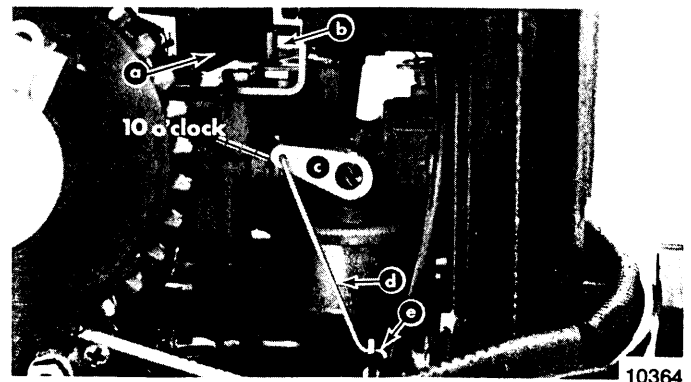

Figure 13. Right Side View of Carburetor Assembly
3. With twist grip held against idle stop, position throttle cam (Figure 13) for approximately .020" (.51mm) clearance between the cam and throttle lever pin.
7. Adjust throttle cam (if necessary) to contact throttle lever pin at 14° ± 2" ATDC. (Figure 13)
9. Install remote idle lever (supplied) on idle mixture screw. (Figure 13)